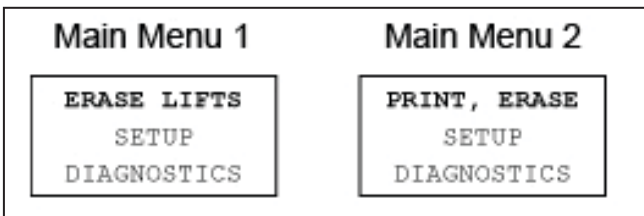

Fig. 2 BinMaxx Main Menu Screens
1. From the weight display, press ESC to reach the main menu (Fig. 2). ERASE LIFTS or PRINT, ERASE will flash. Main Menu 2 will display if you have installed that date/time printer and it is turned on.
Note: If you do not want to reset lift or weight data, select **NO** on either menu or hit **ESC** until you see the main menu, shown in Fig. 2.
1. From the weight display, press ESC to reach the main menu (Fig. 2).